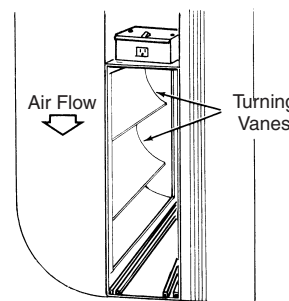

Figure 14
4. Using butt joint, attach duct (normally an elbow) to the upstream side of air cleaner cabinet. (Note the use of the sheet metal turning vanes inside the elbow to improve air distribution over the face of the cells.) (Figure 14)